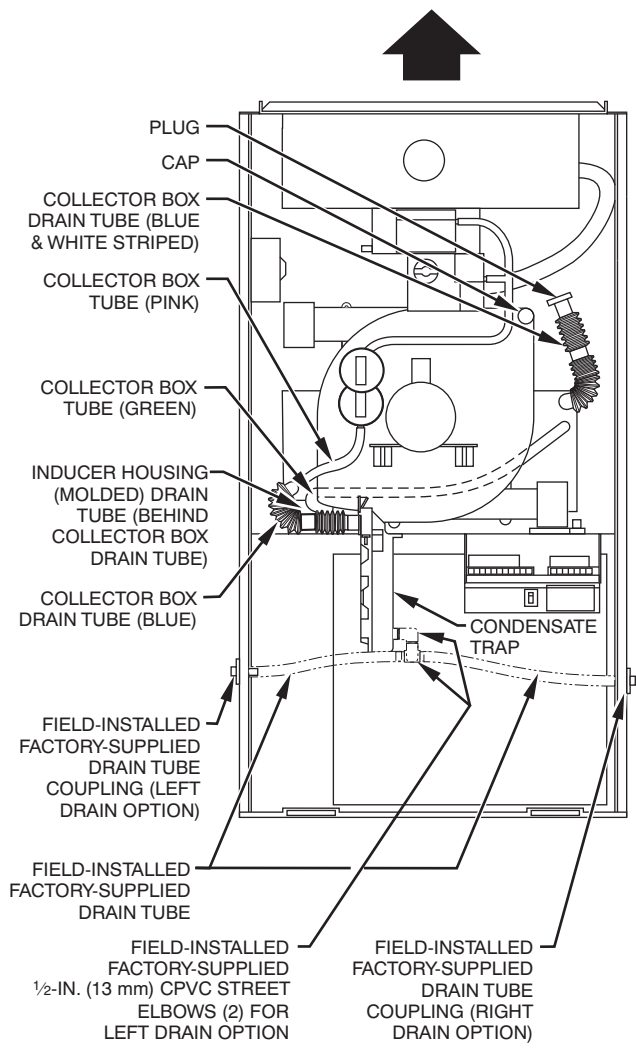

Fig. 6 - Factory-Shipped Upflow Tube Configuration (Shown with Blower Access Panel Removed)
Some assembly and modifications are required for furnaces installed in any of the 4 applications shown in Fig. 1. All drain and pressure tubes are connected as shown in Fig. 6. See appropriate application instructions for these procedures.
NOTE: See Fig.6 or tube routing label on main furnace door to confirm location of these tubes.
j. Cement 2 factory-supplied 1/2-in. (13 mm) street CPVC elbows to the rigid drain tube connection on the condensate trap. (See Fig. 6.) These elbows must be cemented together and cemented to condensate trap drain connection.
NOTE: See Fig.6 or 7 or tube routing label on main furnace door to check for proper connections.